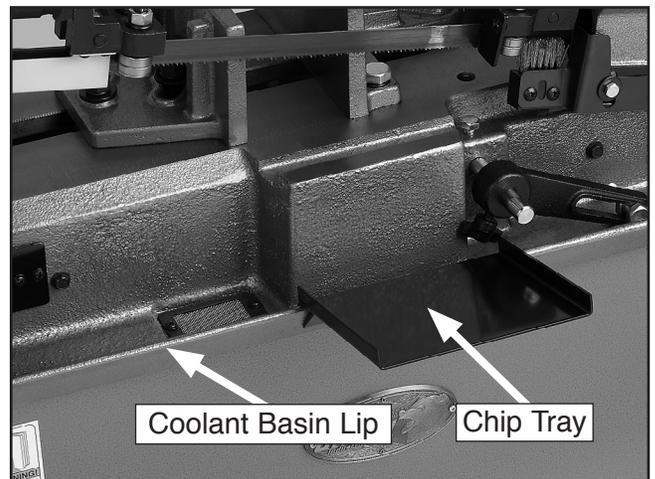

Figure 11. Chip tray installed.
- Position the chip tray brackets over the coolant basin lip as shown in **Figure 11**.